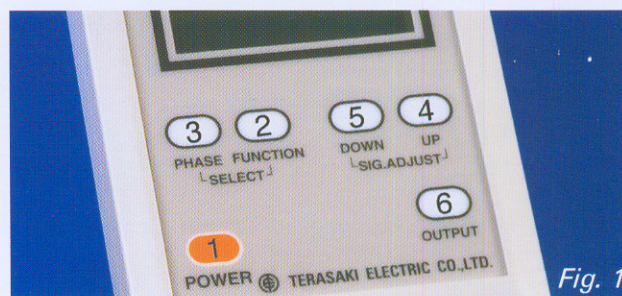

Fig. 1
The function of each switch is described below: Fig. 1 illustrates the front panel of the checker. The number preceding each switch corresponds to the number indicated in this figure.
This switch is used to select a measurement mode. Pressing this pushbutton switch toggles in the above order and each measurement mode is indicated both on the LCD screen and corresponding LEDs on the OCR checker. (fig. 1).
- I. Press the SELECT FUNCTION (② in Fig.1) and select "ST P.U" on the LCD and with the LED.
- II. Using the SELECT PHASE switch (③ in Fig.1) select the phase to be measured.
- III. Press the OUTPUT switch (⑥ in Fig. 1) to output the voltage.
- IV. Press the SIG. ADJUST UP (④ in Fig.1) to increase the voltage until tripping occurs. When tripping occurs, the LED changes from a blinking state to an illumination state and "TRIP" appears on the LCD indicating the voltage value at which tripping has occurred. The output is automatically cut with the trip signal.
- I. Press the SELECT FUNCTION switch (② in Fig. 1) and select "ST T" on the LCD and with the LED.
- II. Using the SELECT PHASE switch (③ in Fig. 1) select the phase to be measured.
- III. Press the SIG. ADJUST UP/DOWN switch (④ and ⑤ in Fig. 1) to adjust the output voltage value at 1.2 times the setting value.
- IV. Press the OUTPUT switch (⑥ in Fig. 1) to output voltage for tripping. When tripping occurs, the LED changes from a blinking state to an illumination state and "TRIP" appears on the LCD indicating the time delay at which tripping has occurred. The output is automatically cut with the trip signal.